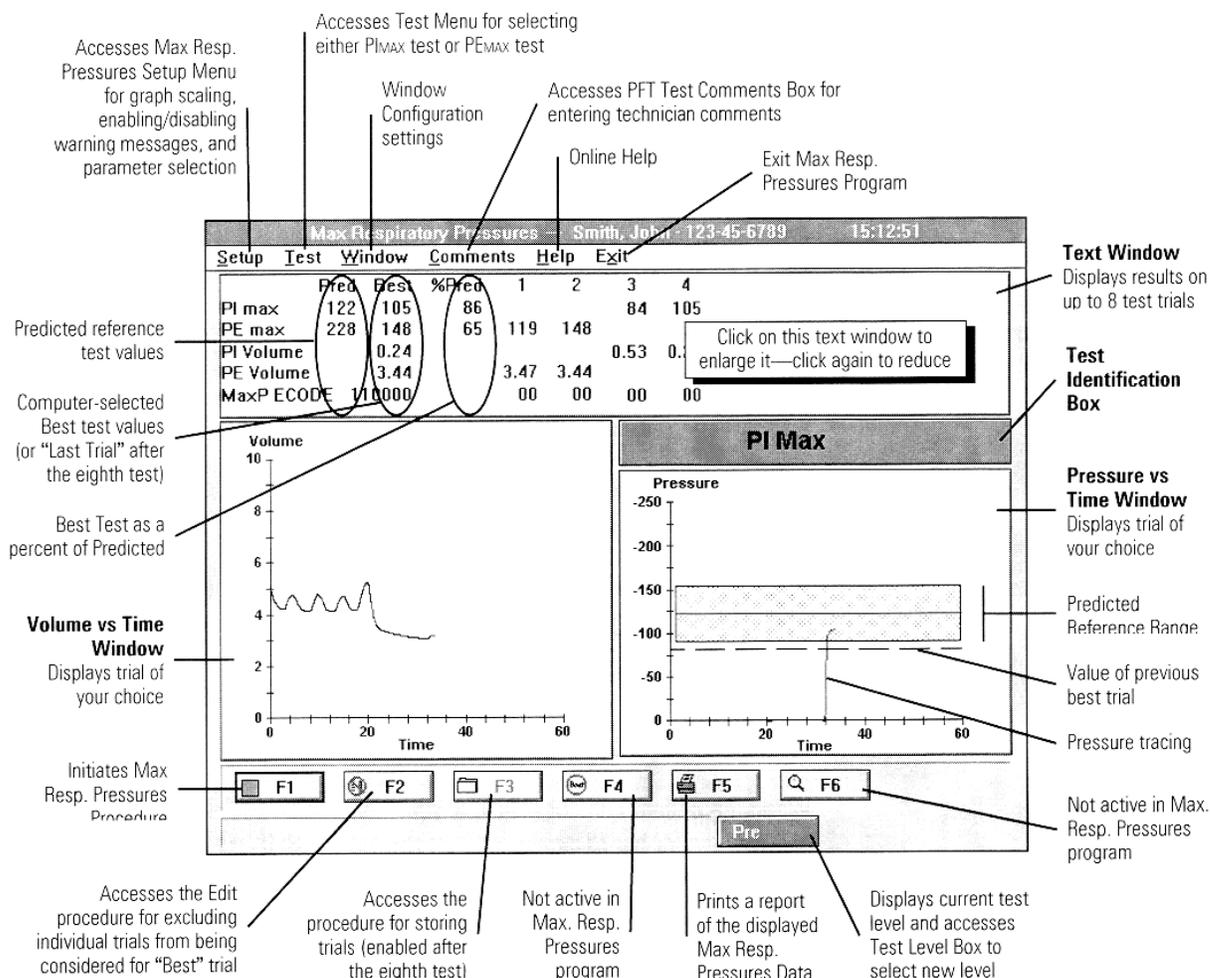

Figure 7-1 – Maximal Respiratory Pressures Test Screen
2. From the **Pulmonary Function Menu**, select **6 Max Resp. Pressure**. The **Maximal Respiratory Pressures Test** screen will be displayed (Figure 7-1).